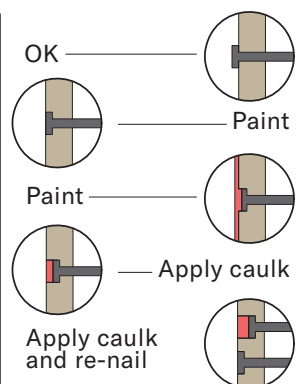

Figure 3a
- Face nails:** corrections are detailed in Figure 3a.